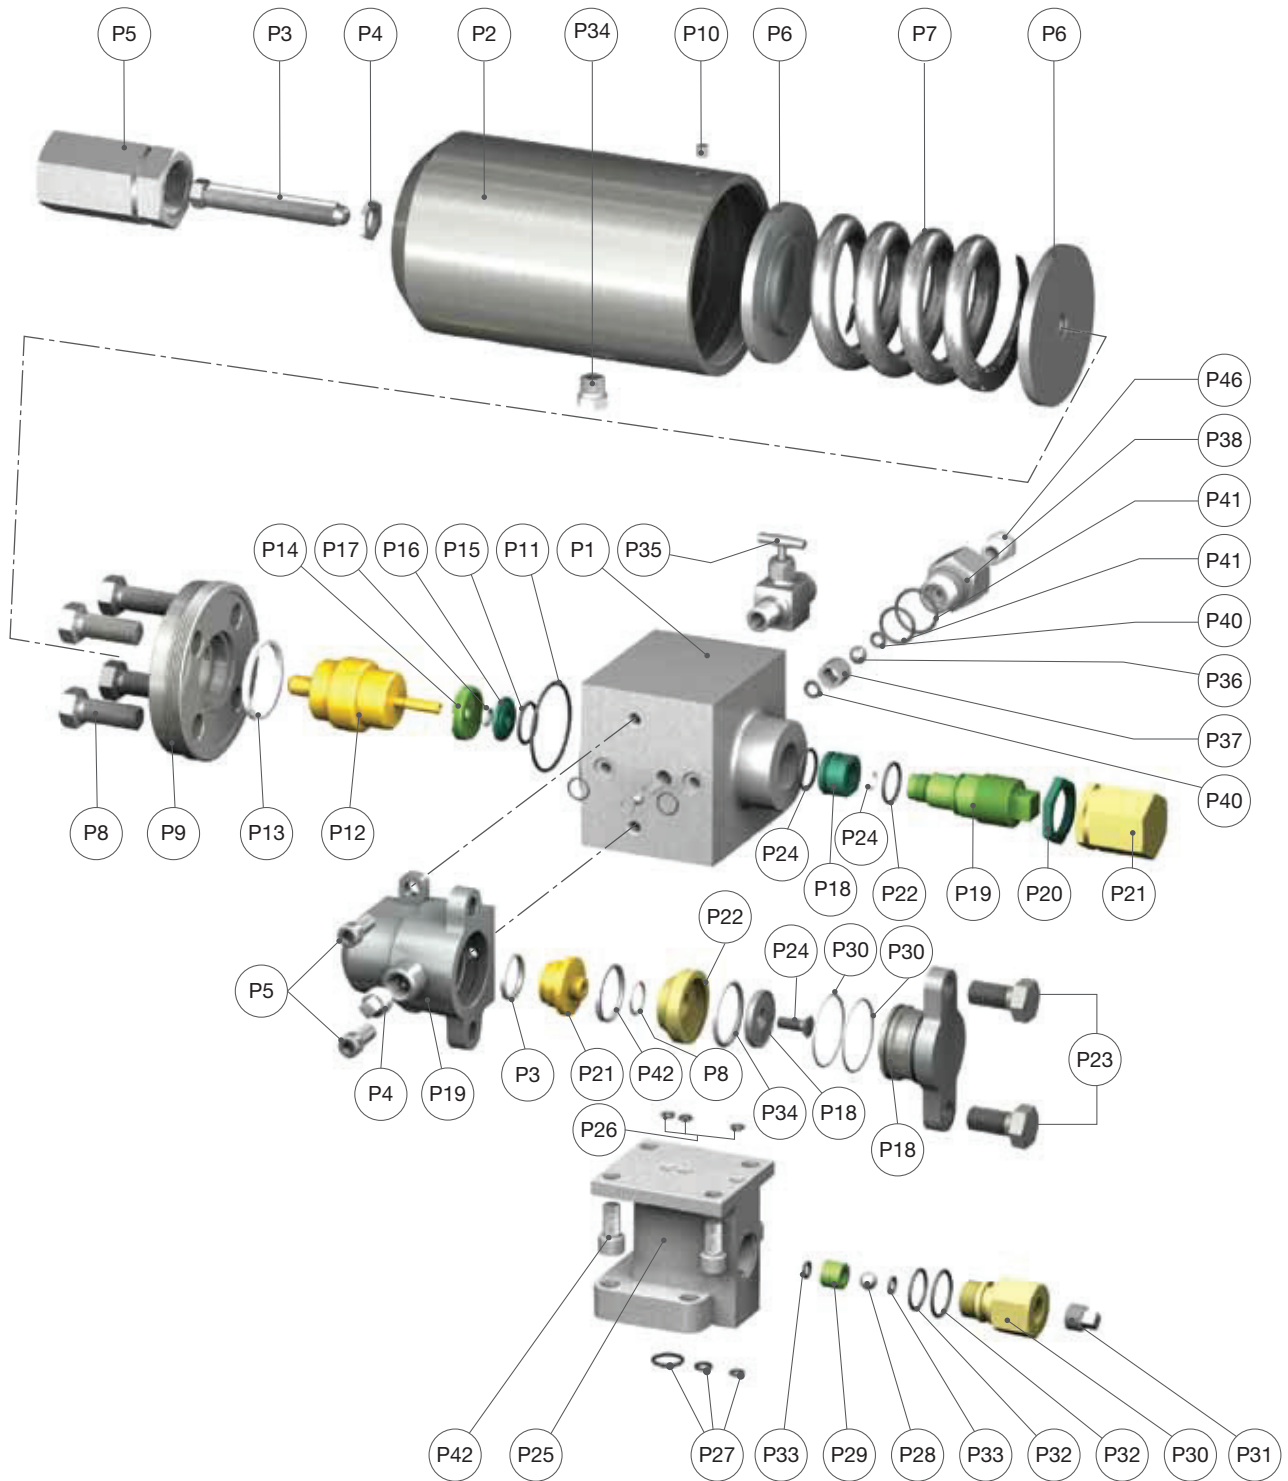

Figure 19: 49MV07 Disassembly
3. If a lifting lever is installed, also use Figure 18 to remove the Lifting Lever assembly. Then return to Figure 19 to continue disassembly.